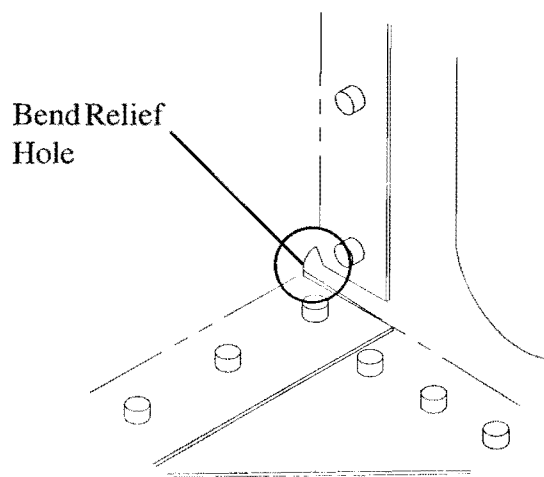

Figure 2. Inspection Area Detail
3. Refer to Figure 2. If the bend relief hole in the lower inboard corner of the Baffle is sealed, proceed to PART III: CREATE A DRAIN HOLE. If the bend relief hole in the lower inboard corner of the Baffle is open, recap the fuel filler port and proceed to the RECORD COMPLIANCE section of this Service Bulletin.
3. Refer to Figure 2. Using a small punch, clean out the sealant in the bend relief hole to create a 1/8 inch diameter drain hole.